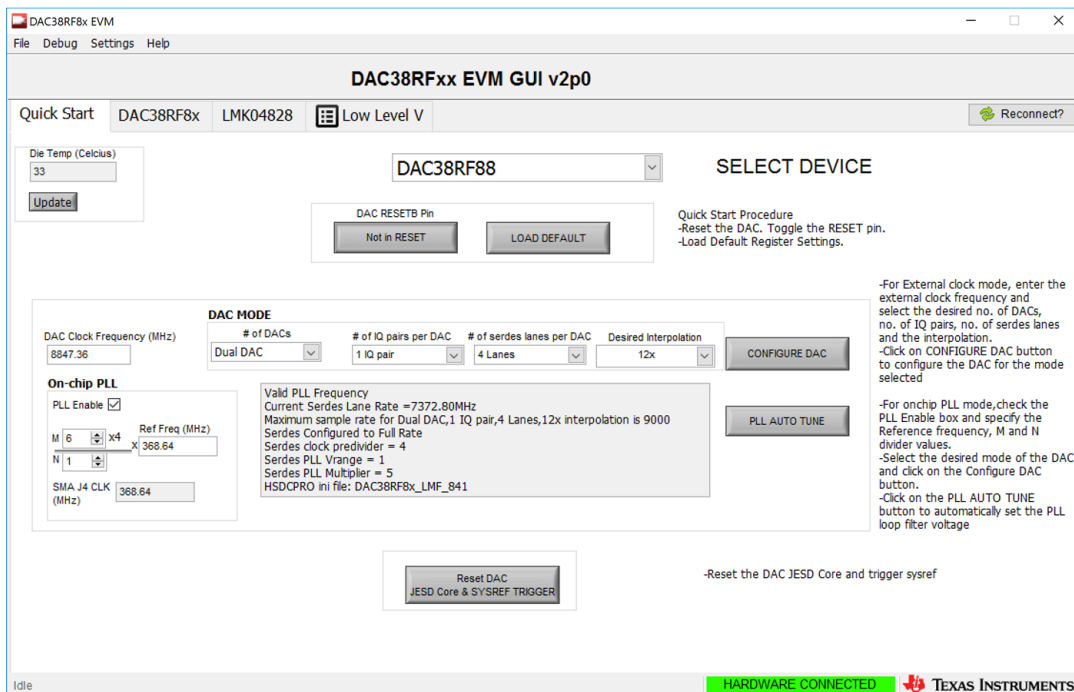

Figure 2. DAC38RF8x EVM GUI Quick Start Tab
4. Next fill in the values in the *DAC Mode* box according to the desired configuration. Figure 2 shows the correct values for the LMF = 841 configuration. For this mode set the following parameters: